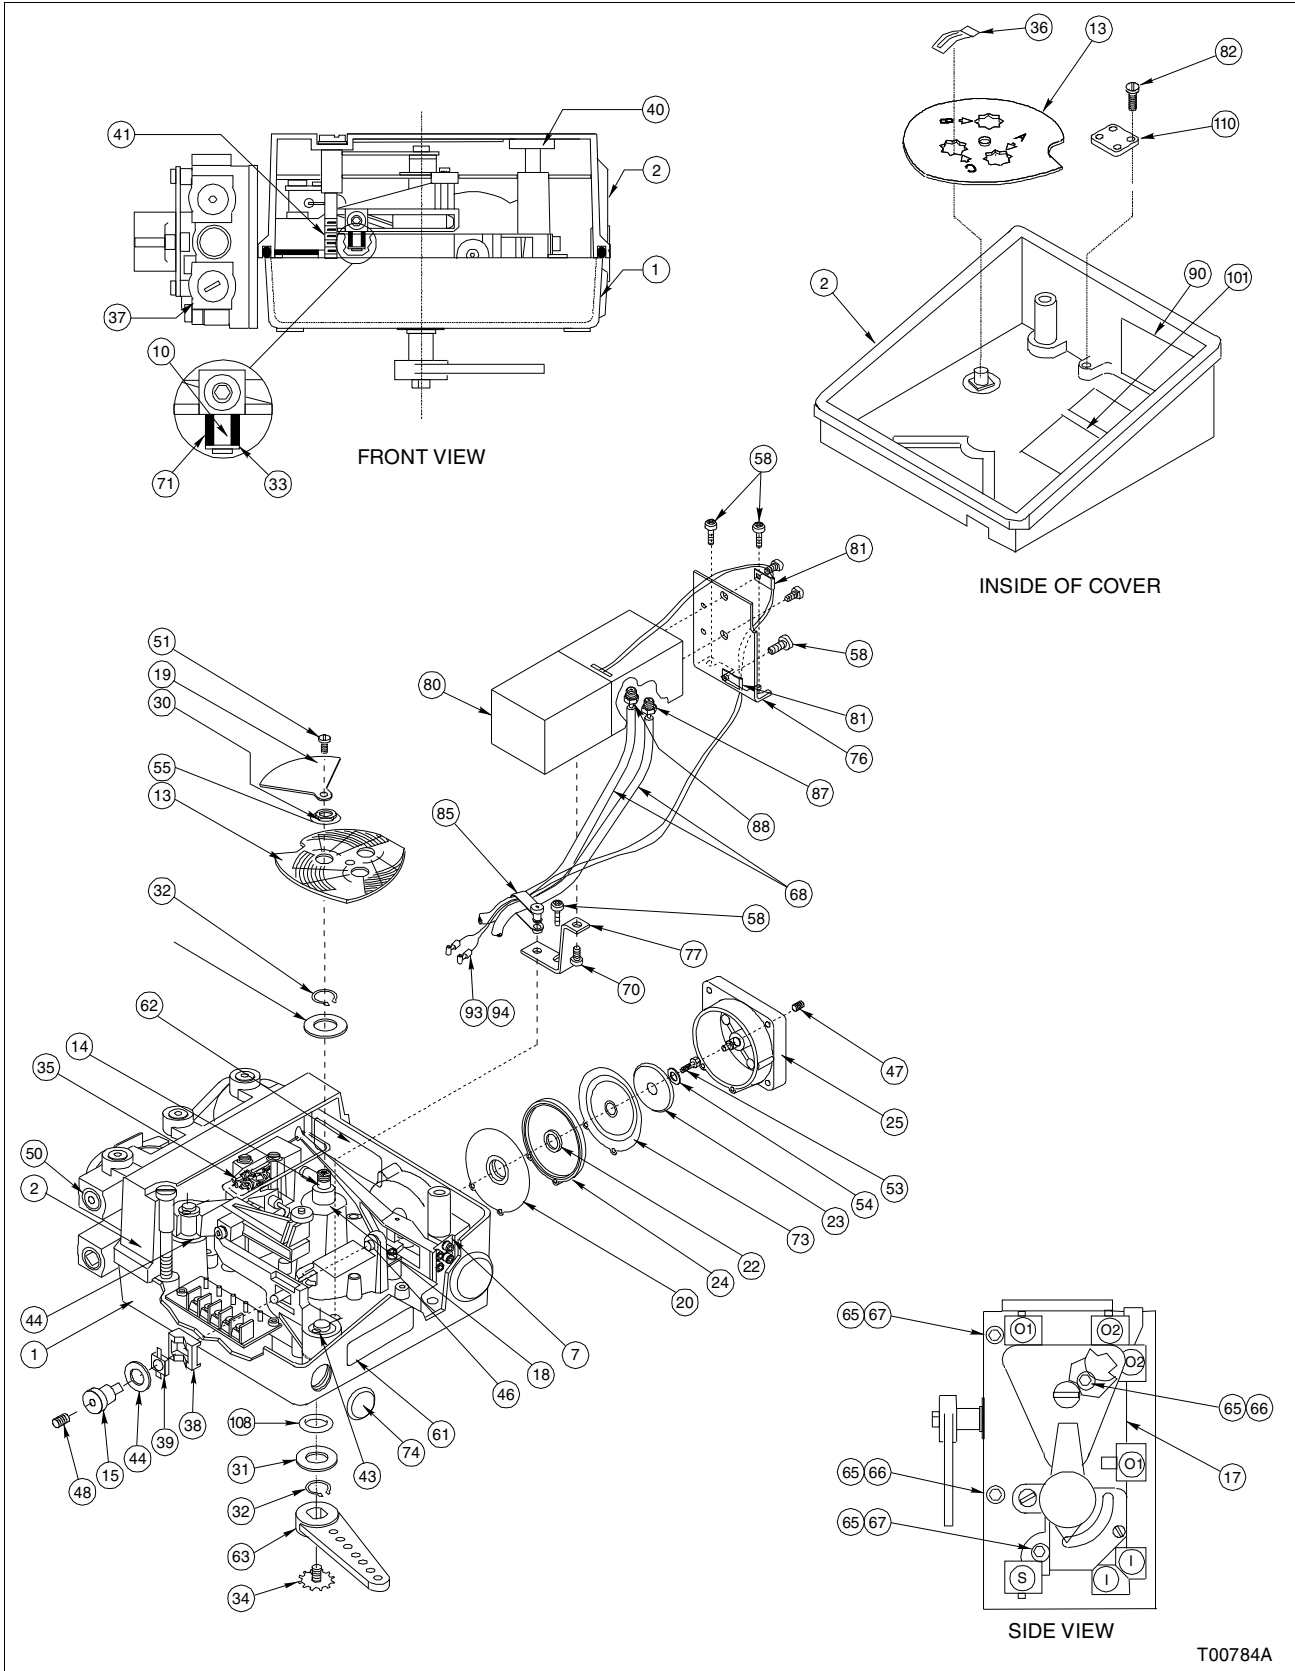

Figure 9-4. Type AV2 Positioner (Page 1 of 2)
Type AV2 Positioners (Fig. 9-4) (continued)
*Table 9-31. Cam and Drive Shaft Parts Reference for Type AV2 Positioners (Fig. 9-4) (continued)*
*Table 9-32. Manifold/Gage Block Parts Reference for Type AV2 Positioners (Fig. 9-4)*
*Table 9-33. Shaft Position Transmitter Parts Reference for Type AV2 Positioners (Fig. 9-4)*